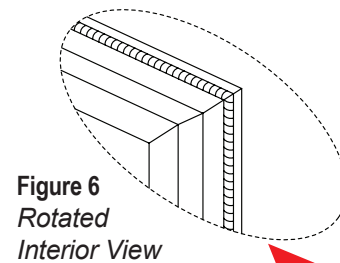

Figure 6
- A) Apply a continuous 3/8" bead of premium grade, compatible exterior sealant to the backside of the mounting fins (interior facing) at the head and jambs of the door near the outside edge of the mounting fin. **See Figure 6**